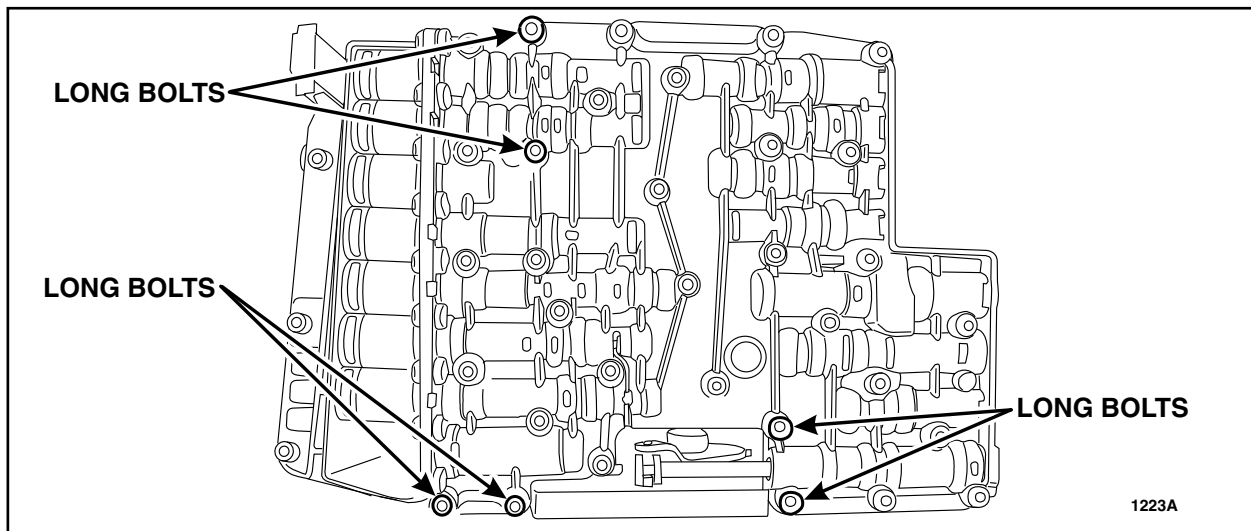

FIGURE 4
7. Install the six long bolts to the *new* molded leadframe. See Figure 4.